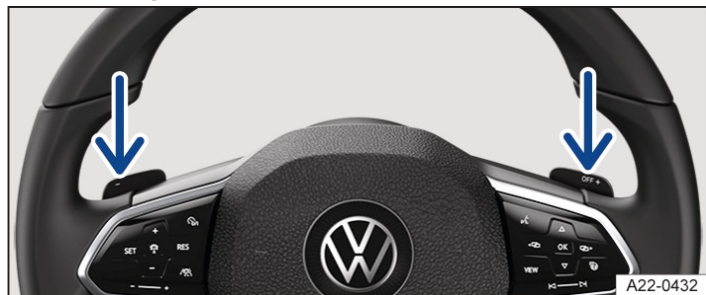

Fig. 2 Behind the steering wheel: paddles for Tiptronic.
1. Pull the right paddle towards the steering wheel to change up a gear → *Fig. 2*.